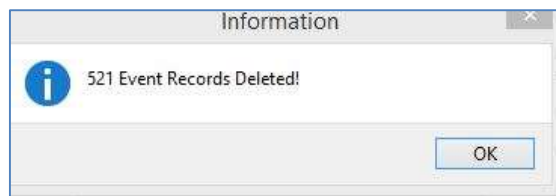

Figure 18
- The total number of events deleted will be displayed (**Figure 18**)